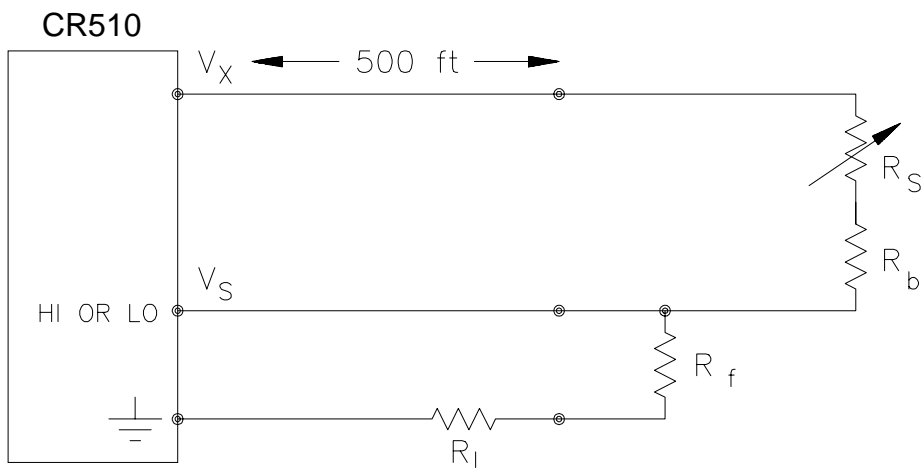

FIGURE 13.3-9. Incorrect Lead Wire Extension on Model 107 Temperature Sensor
6. Most Campbell Scientific sensors are configured with a small bridge resistor, R_f , (typically 1 kohm) to minimize the source resistance. If the lead length of a Campbell Scientific sensor is extended by connecting to the pigtails directly, the effect of the lead resistance, R_l , on the signal must be considered. Figure 13.3-9 shows a Campbell Scientific Model 107 sensor with 500 feet of extension lead connected directly to the pigtails. Normally the signal voltage is proportional to $R_f/(R_s+R_b+R_f)$, but when the pigtails are extended, the signal is proportional to $(R_f+R_l)/(R_s+R_b+R_f+R_l)$. R_l is much smaller than the other terms in the denominator and can be discarded. The effect on the signal can be analyzed by taking the ratio of the signal with extended leads, V_{sl} to the normal signal, V_s :